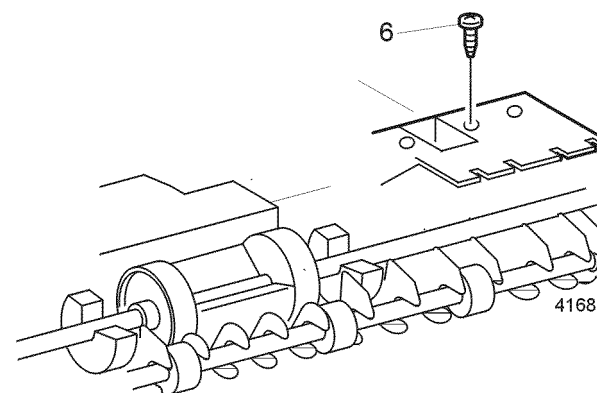

Figure 1 Sensor Cover
6. Remove the screw that secures the sensor cover (Figure 1). Remove the cover.